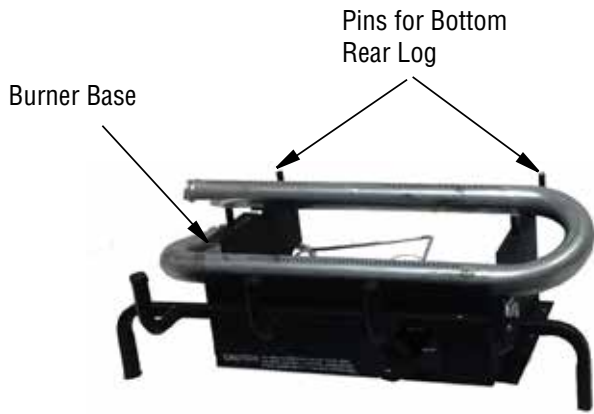

Figure 31 - 18" Burner base
1. Place bottom rear log onto base. Holes in bottom of log must seat over pins on base as shown in **Figures 31 and 31A**.